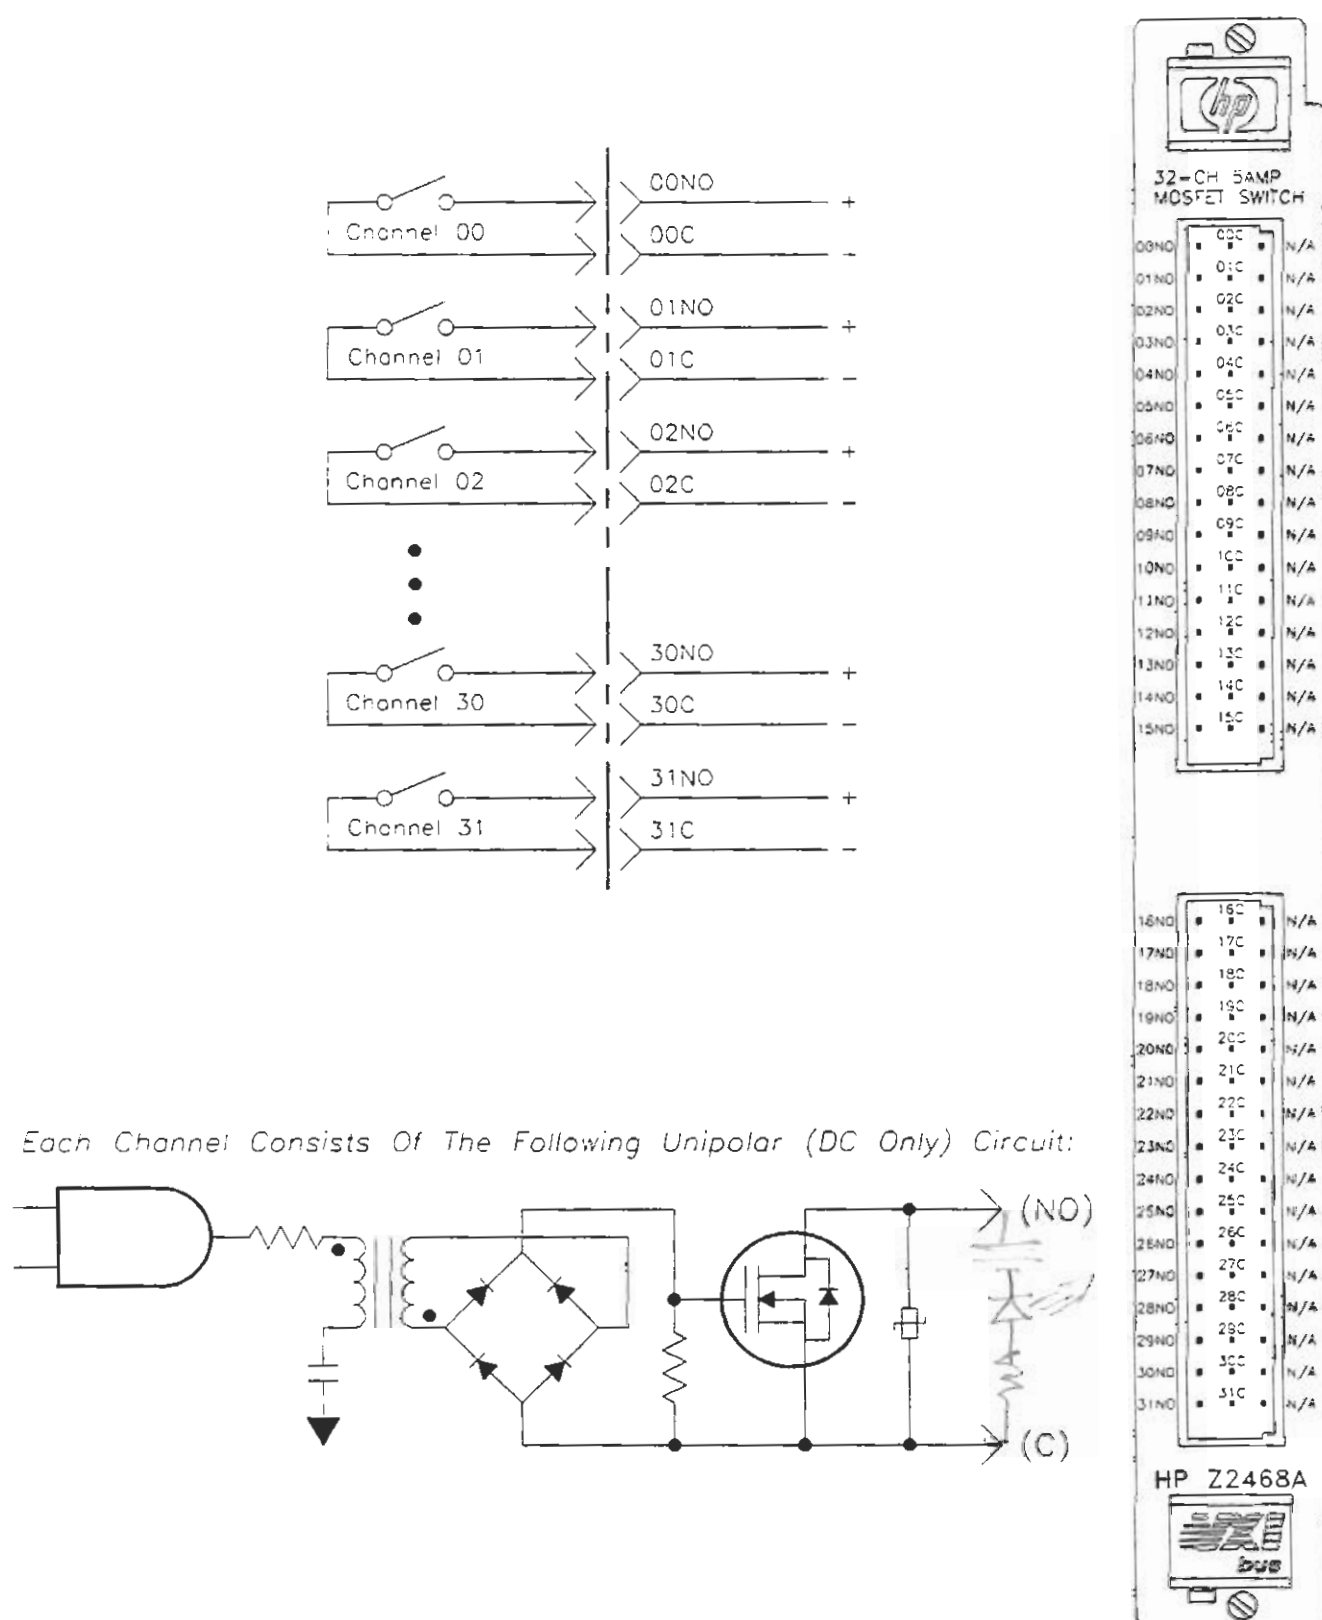

Figure 1-1. HP Z2468A Simplified Block Diagram and Front Panel
Figure 1-1 shows a simplified block diagram, individual channel schematic, and front panel of the HP Z2468A 32-Channel DC Power Solid State Relay Module. The HP Z2468A provides 32 unipolar (passes DC current) Form A (SPST) Solid State power switches. The transformer isolated design gives the module short closure times and low closed contact resistance. Multiple channels can be wired in parallel to increase current carrying capability. Normally, the switches carry unipolar (DC) current but two switches can be wired together to form an AC switch.
Figure 1-1 shows the simplified diagram and terminal connections for the module. Notice that the column of pins on the far right side of the connectors is not used. In general, spread the DUT connecting wires out and away from each other to help dissipate heat.